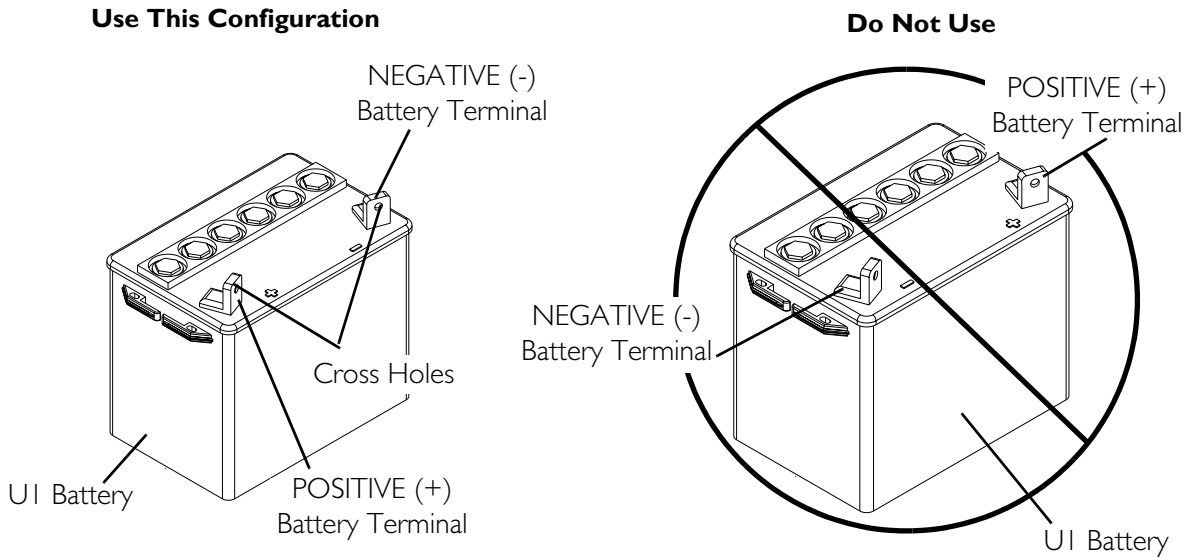

FIGURE 18.1 Using the Proper Batteries
NOTE: For this procedure, refer to FIGURE 18.1.
2. Visually draw a horizontal and vertical centerline through the middle of battery (FIGURE 18.1).
4. Visually inspect the battery to ensure the correct position of the POSITIVE and NEGATIVE terminals (FIGURE 18.1):